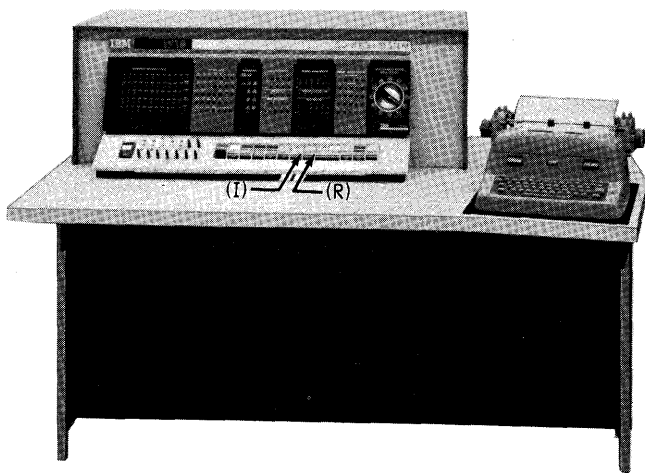
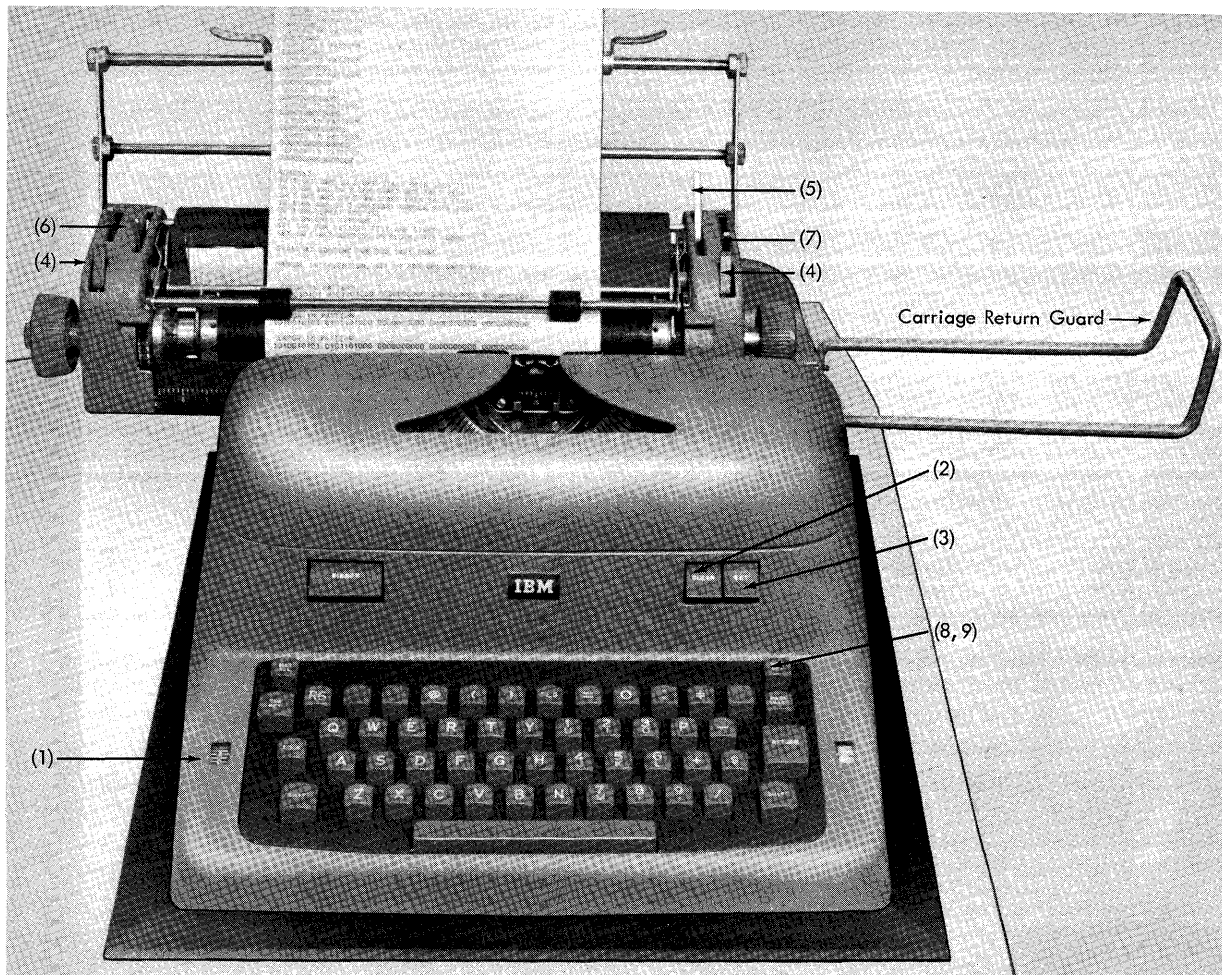

Figure 18. IBM 1620 CPU with I/O Typewriter
Figure 19. I/O Typewriter, Manual Controls and Keys
The 1620 console typewriter (Figure 18) is used for both input and output.
The 1620 console typewriter is used to enter data and instructions directly into core storage. Off-line use is not possible because the keyboard (Figure 19) is locked except when entering data. Depressing the console Insert key (see Figure 18, I) unlocks the keyboard and permits data to be entered into core storage, starting at location 00000. Each depression of a typewriter key enters a character into core storage one location higher than the previous character. As many as 100 characters can be entered from the typewriter. After the 100th character is entered, an automatic release is initiated and the machine returns to manual mode. The Start key may then be used to start program operation at 00000.
If a record mark is required in core storage following the last character entered, the Record Mark key on the typewriter must be depressed before depressing either the R-S key on the typewriter or the Release key on the console (see Figure 18, R). Depressing either key again locks the keyboard and gives the computer an end-of-input/output indication.
The numbers preceding each of the following headings refer to numerals in Figure 19 designating particular keys, etc.; (1), for example, designates the Impression indicator.
- the type bars strike. To test for the correct setting, move the indicator up until the comma and period print distinctly but not heavily. Use a higher setting for multiple copies, but be sure that the multiple copy lever (7) is also correctly set before finally adjusting the impression.